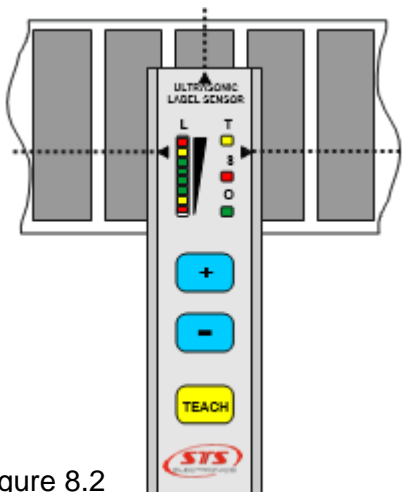

Figure 8.2
3. Position the stock so a label is under the sensor, as shown in figure 8.2.